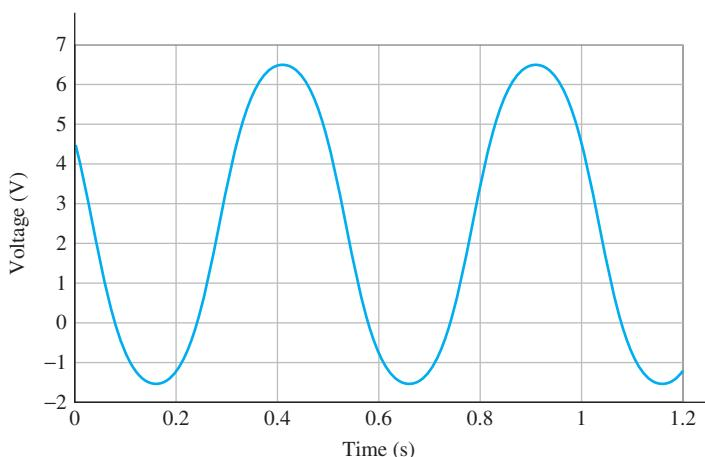

FIGURE P6.13 Voltage plot for Problem 6.13.
- 6.13** (H)* A voltage source plot is shown in Figure P6.13. Determine the period and function of this sinusoidal voltage.